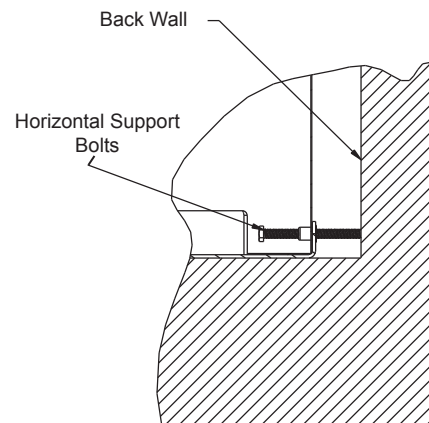

Figure 19.6
3. Thread the horizontal support bolts in until they hit the back wall of the fireplace to help secure in place (**Figure 19.6**).